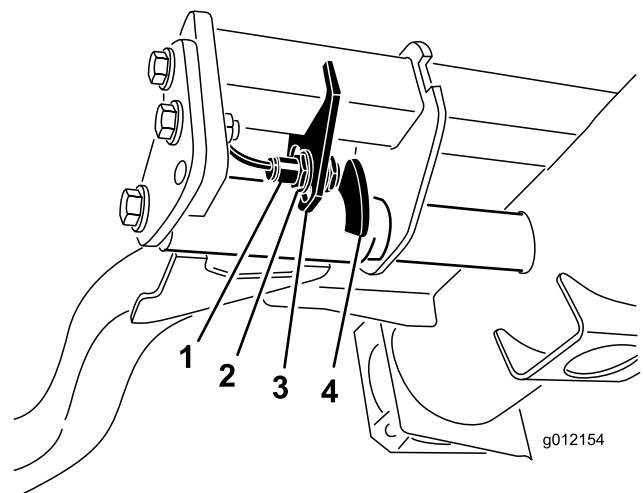

Figure 36
- The lift-arm switch is located underneath the hydraulic tank behind the front, right lift arm (Figure 36).
- Loosen the switch-mounting screws and move the switch down to increase the lift-arm turnaround height or move the switch up to decrease the lift-arm turnaround height (Figure 36).